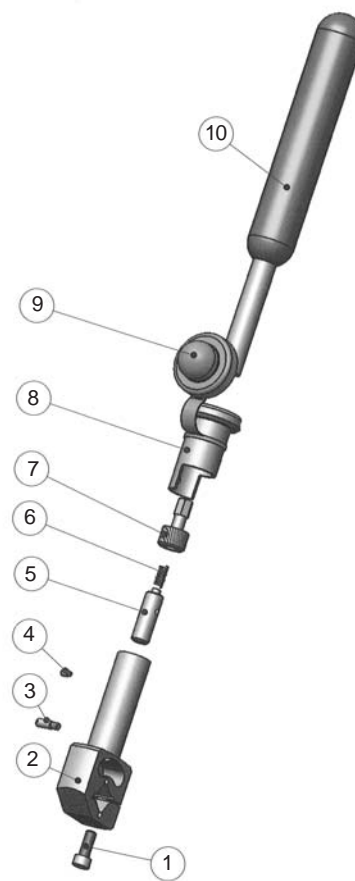

Figure 5-2 Exploder view and part list, locking piece assembly
5. Place the bottom (smallest) seal in its groove. Correct alignment: the seal's shorter chamfer against the ball, see figure 5-2.